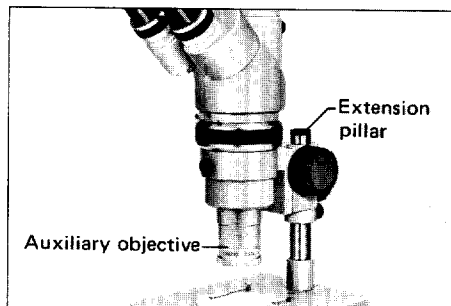

Fig. 25
5. Auxiliary objectives (Fig. 25)